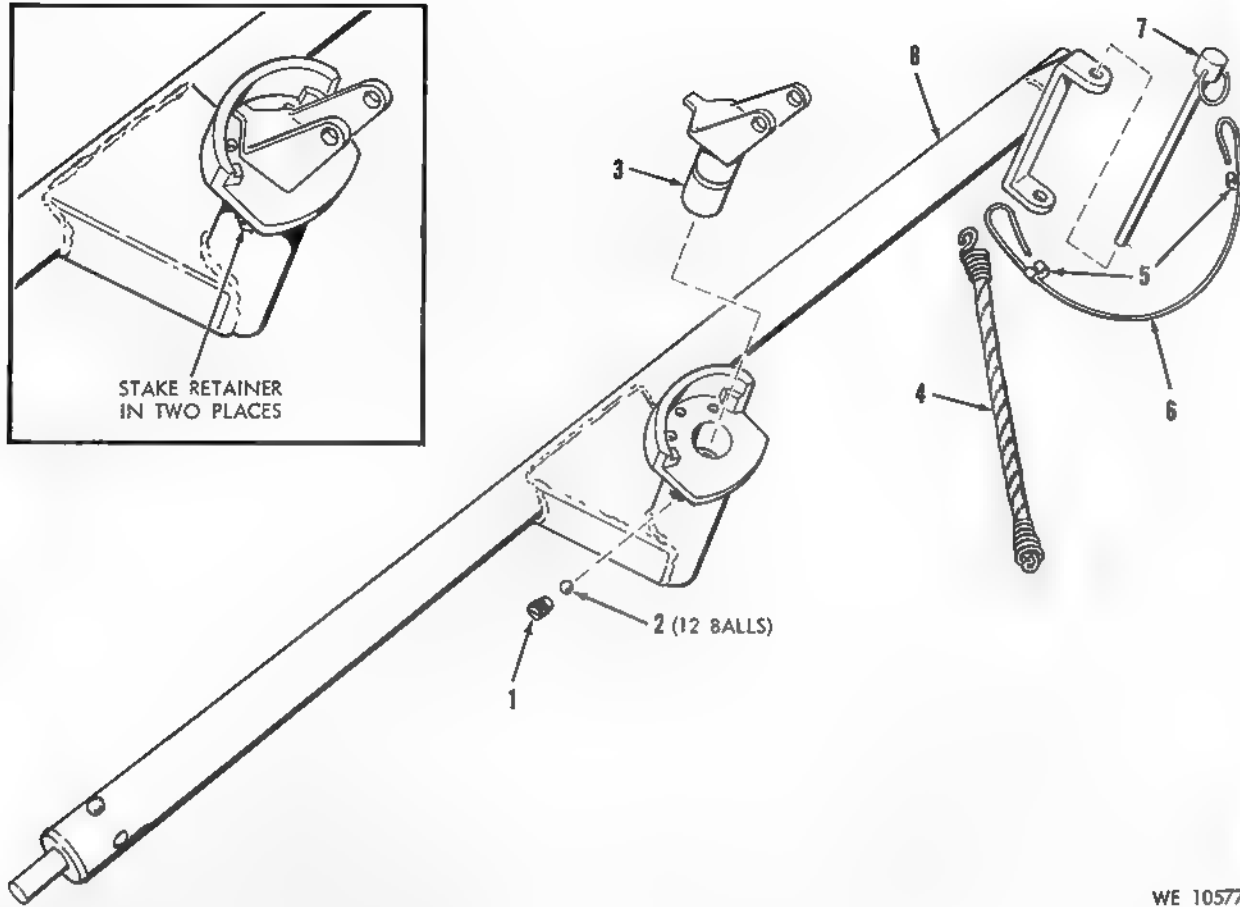

Figure 3-17. Mount assembly XM24—exploded view.
a. *Disassembly and/or Assembly.* Refer to figure 3-17.
- (1) Inspect welding assemblies for cracks and distortion. If welding assemblies are unserviceable, return to direct support for repair or replacement.
- (2) Inspect pivot for cracks and distortion, steel balls for damaged surfaces. Replace pivot or steel balls if unserviceable.
- (3) Examine pin for proper operation and distortion, cable for breaks and complete protective cover, and cord as-